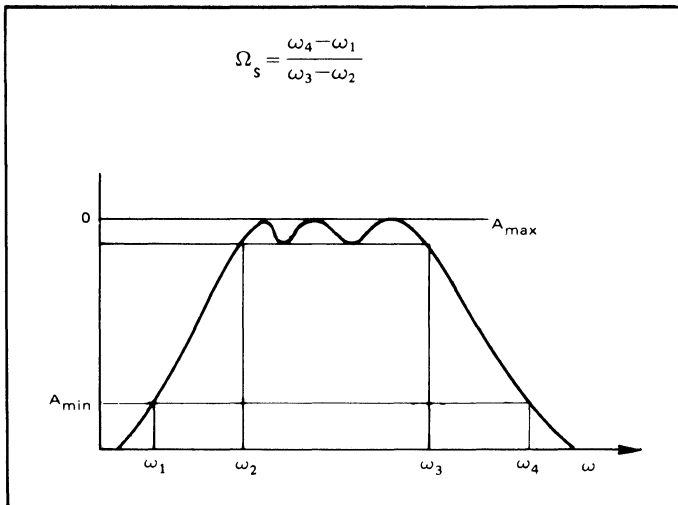
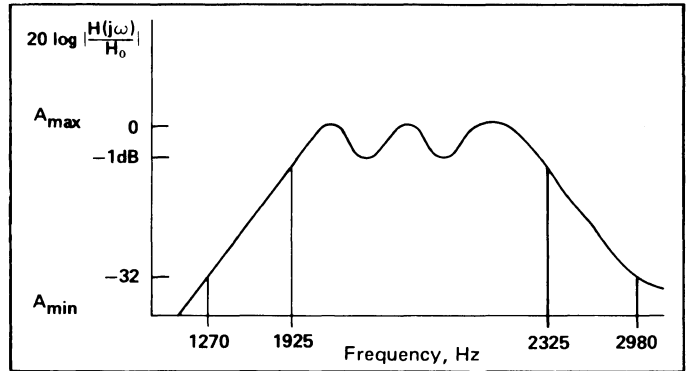

FIGURE 2
FIGURE 7
–42 dBm for the desired signal and –16 dBm from the local oscillator.) This means that in a worst case situation, the input level of the received signal is –42 dBm with the level of the local oscillator 26 dB above this. For the XR-2211 to operate with a low bit error rate, the input should be 6 dB higher than the interfering signal. This implies that the stopband $A_{\min}$ from Figure 2 is 32 dB. The XR-2211 has an internal preamplifier with a dynamic range of greater than 60 dB, and requires a minimum input level of –38 dBm to cause limiting. If we choose a filter to have a passband ripple of 1 dB and an overall gain of 5 dB, the input conditions of the XR-2211 will be satisfied. The filters introduce a phase shift that is only linear for approximately 1/2 to 1/3 of the passband, therefore, a bandwidth of 400 Hz is used for the filter. The general shape of the filter is shown in Figure 7.